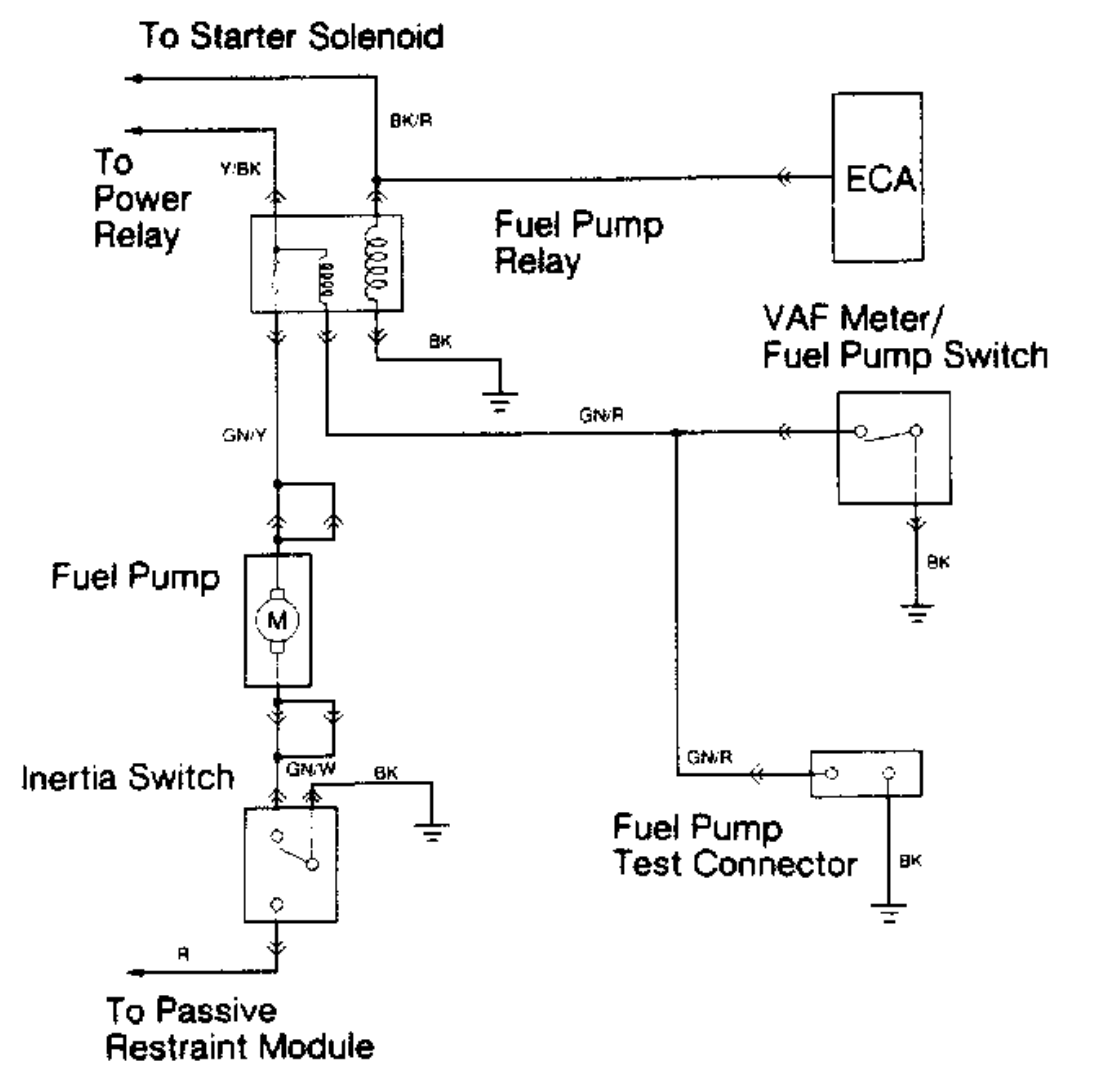
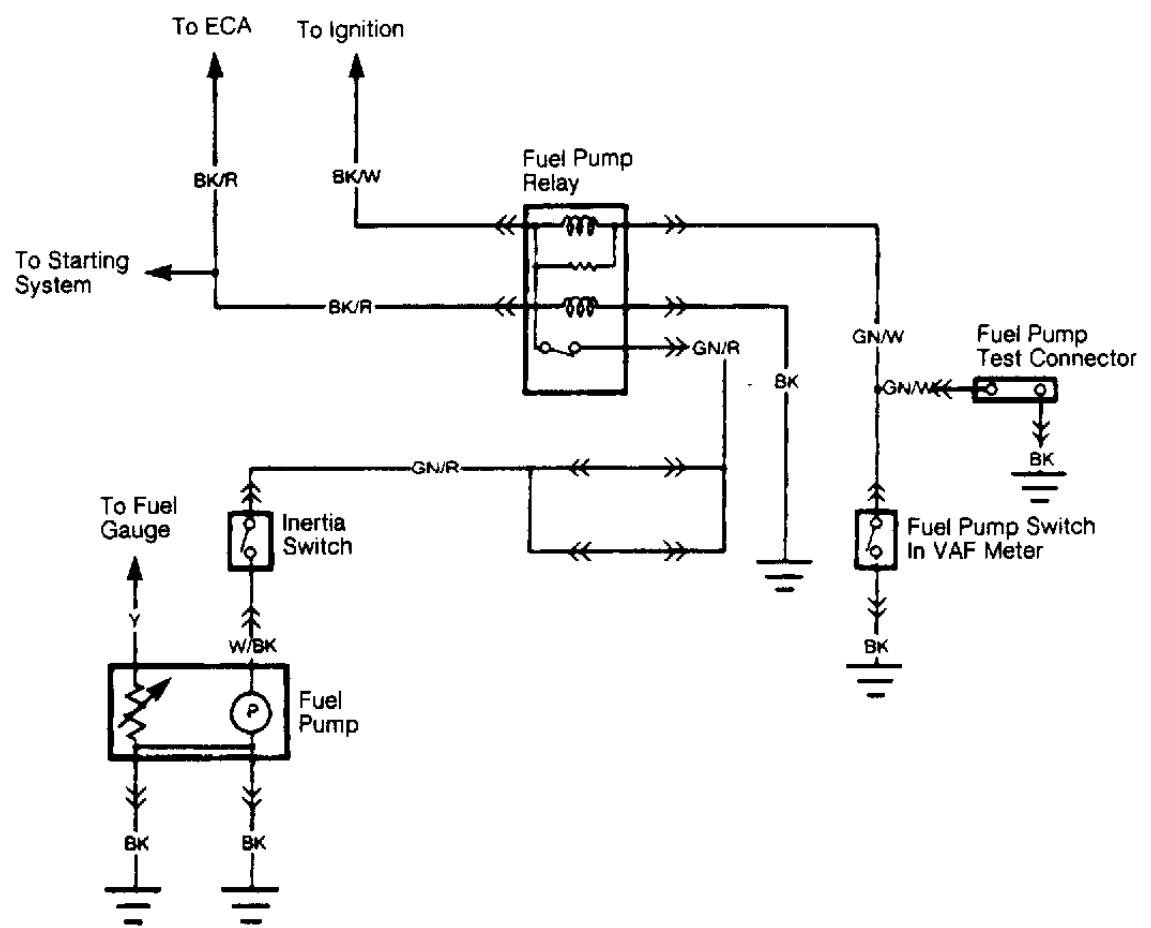

Fig. 1: Festiva Fuel System Electrical Schematic
Fig. 2: Capri Fuel System Electrical Schematic
- 1. Turn ignition on. Connect jumper wire between fuel pump test connector terminals. See Fig. 1 or Fig. 2 . Turn ignition on to activate fuel pump.